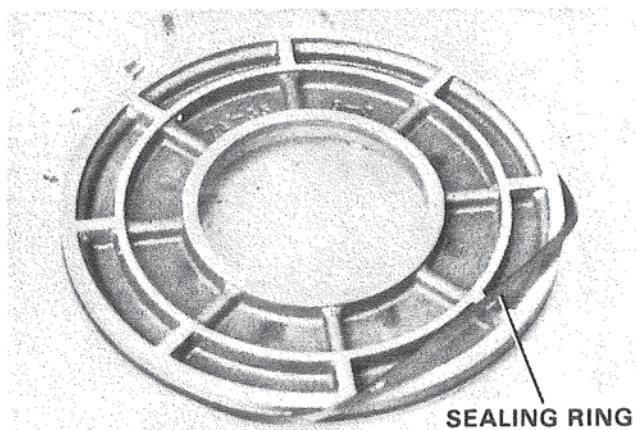

Figure 16. Removing Sealing Ring.
3. Remove sealing rings. Figures 16 and 17.